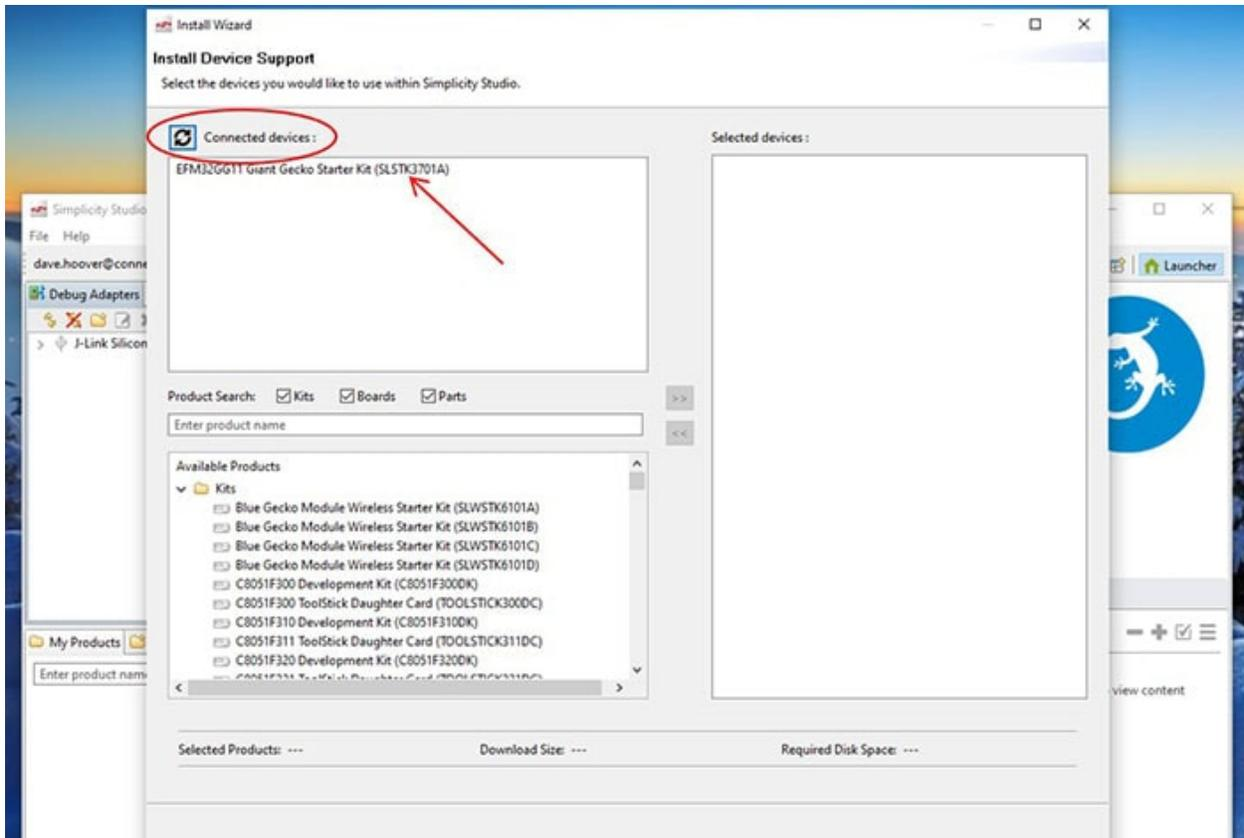

Figure 4: Starter kit listed in the "Connected devices" pane. (Source: Simplicity Studio)
7. Double click on your starter kit that is now listed in the “Connected devices” pane and click “Next” (Figure 4).